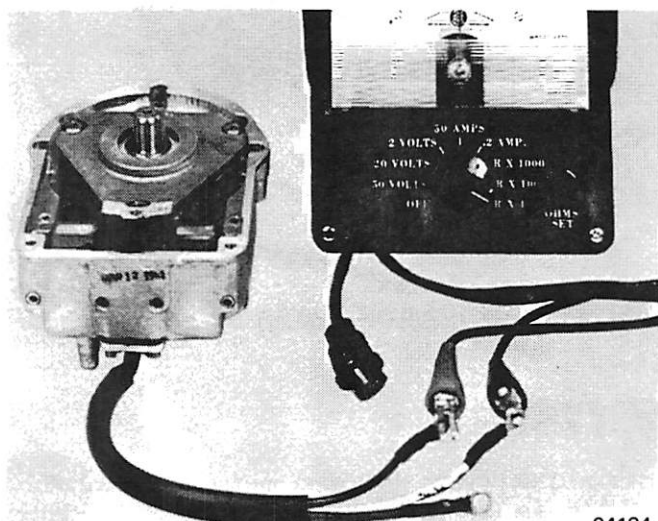

Figure 1. Testing Coils
4. Test high and low coils with VOA Electrical Tester (C-91-52751), following specifications in chart, above. Coils also can be tested without removing from ignition driver. (Figure 1)